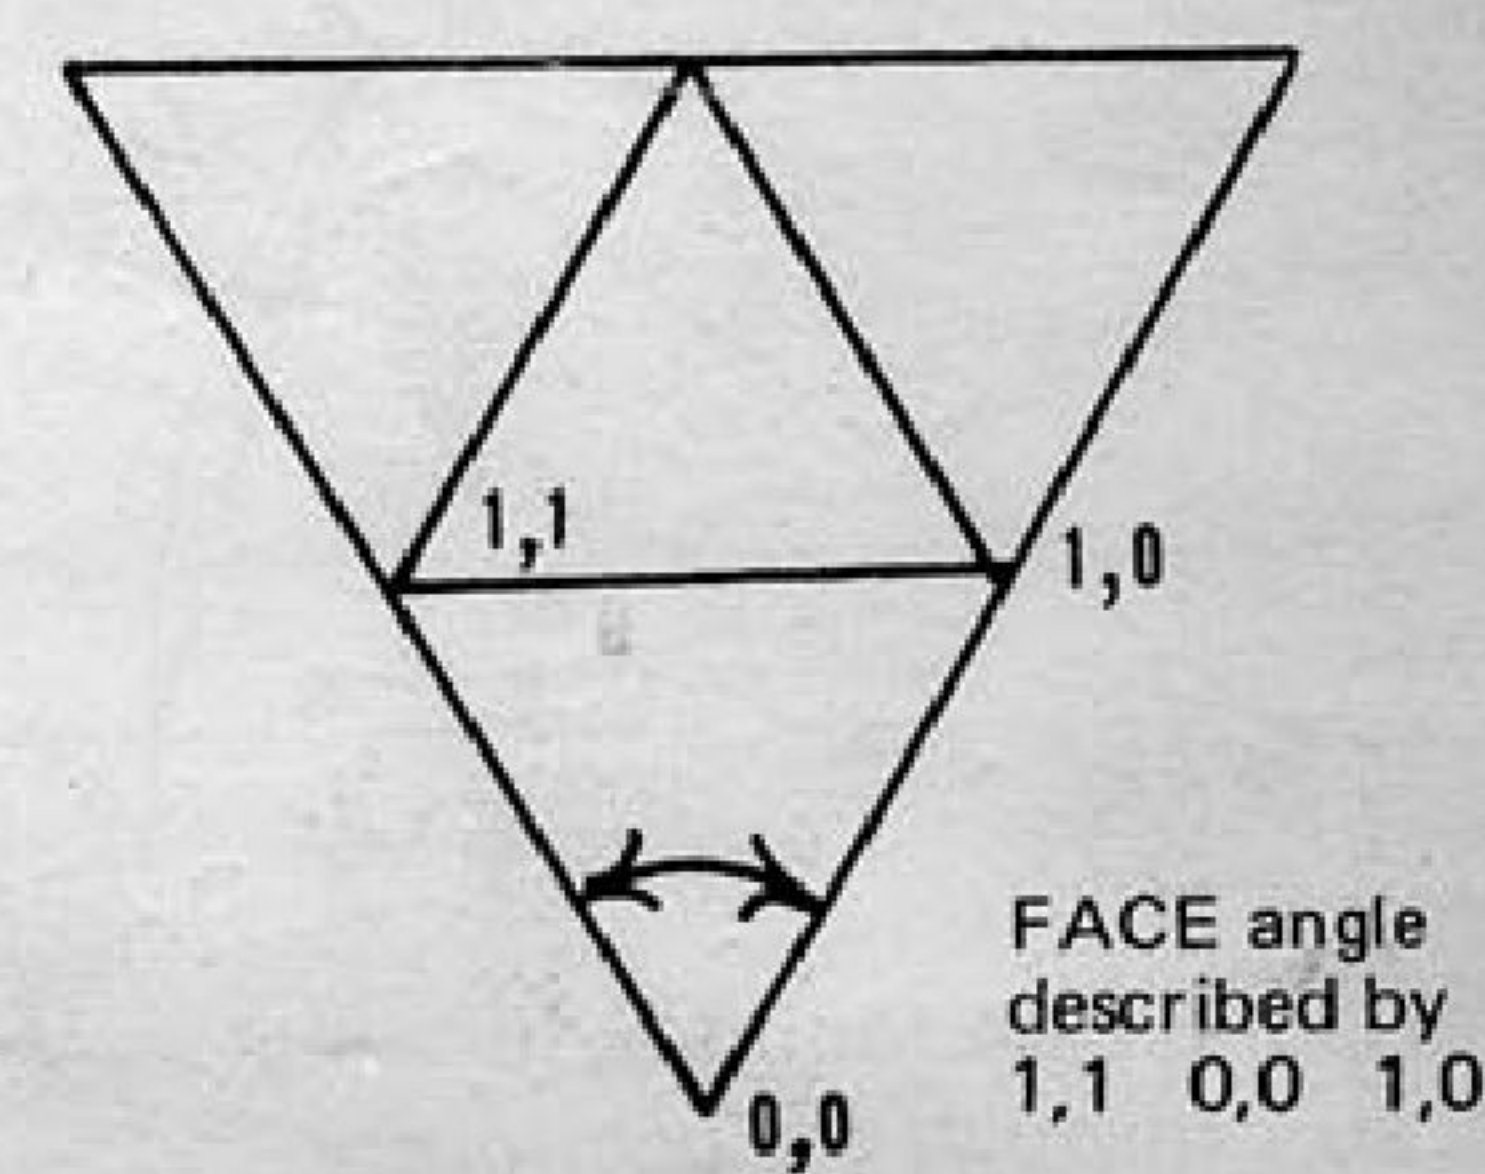

Fig. 3
- **FACE** 1,1 0,0 1,0 refers to one angle of the triangle described by these points. The angle given whose apex is at the second vertex identification shown; in this case, 0,0 (Fig. 3). Face angles refer to angles of triangles generated by chord factors, not spherical angles on a true sphere. Again, the number is given in degrees.